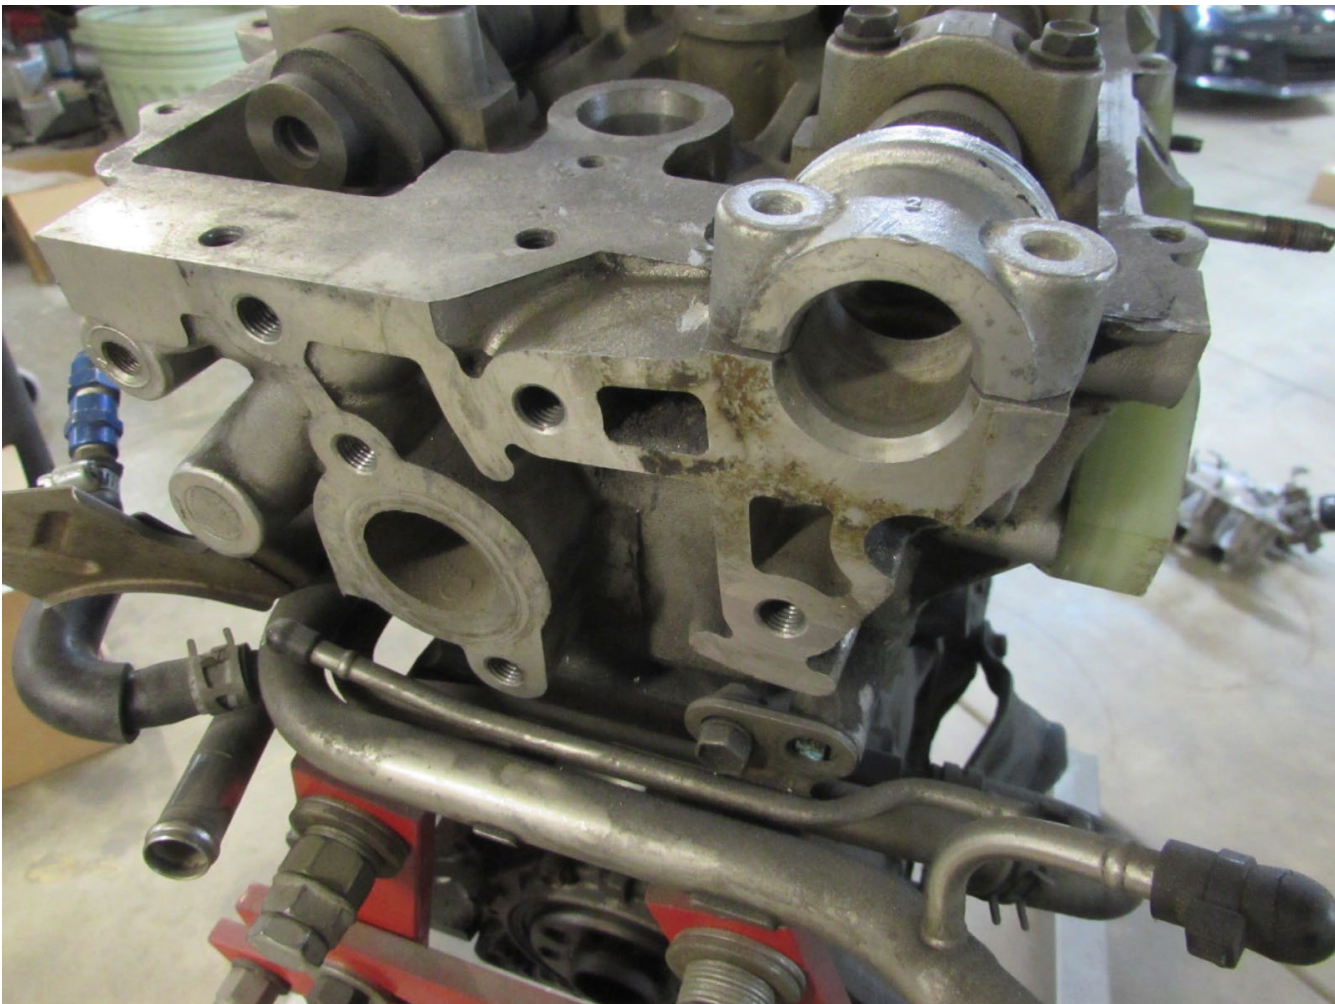

Figure 8
7. Remove the distributor assembly. **Please follow the BGB for this procedure.** (Fig 8)